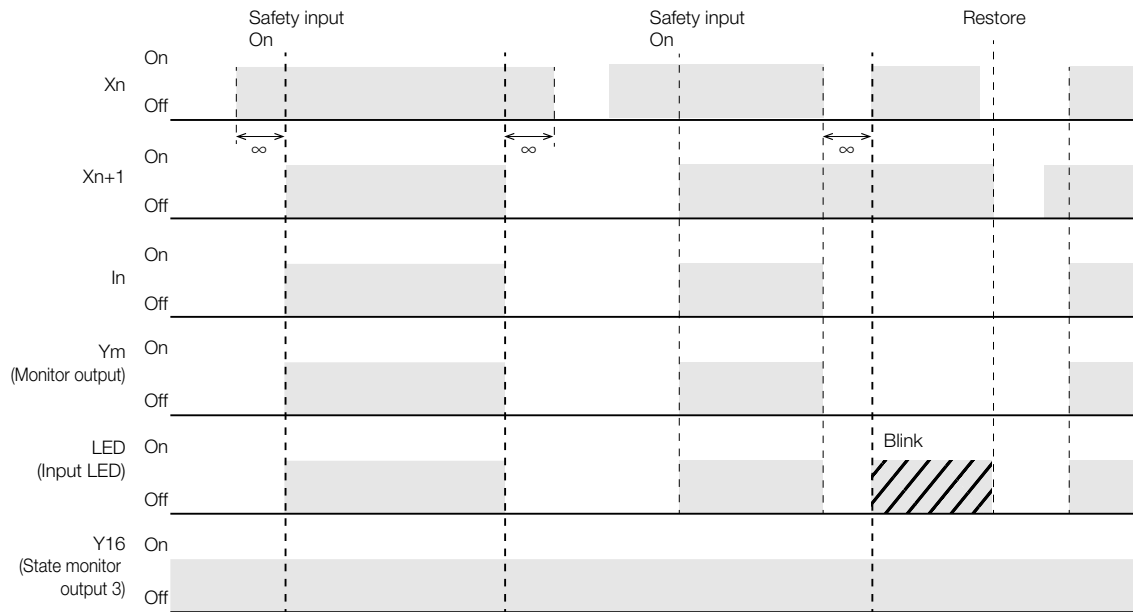

Figure 5.147 Operation timing of dual channel safety input II function
The operation timing is described in figure 5.147.
- If only one receive circuit (Xn+1 in the figure 5.147) is turned off while the two of receive circuits are on fault in safety component or input circuit (welding of contacts, short circuit in wiring or input circuit error, etc.) and then turned on again, an alert condition will occur and the input LED will blink. The function output is not turned on at that time.